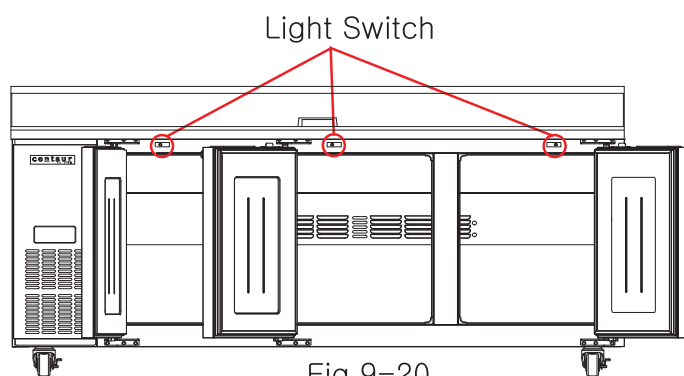

Fig 9-20
1. Check switches for repair.(Fig 9-20)